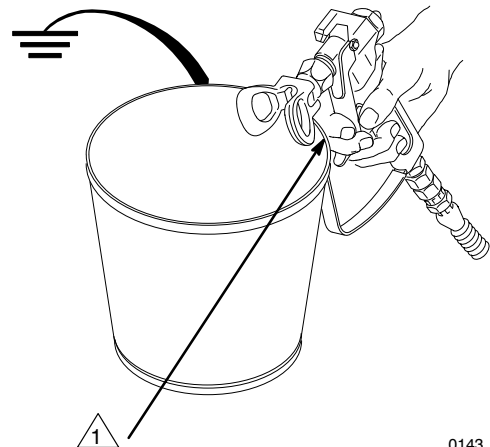

Fig. 4
7. To prime pump, hold a metal part of gun firmly against into a metal waste container. See Fig. 4. Squeeze trigger and hold it open, turn ON/OFF switch to ON, and slowly increase pressure setting until sprayer starts. Keep gun triggered until all air is forced out of system and paint flows freely from gun. Release trigger and engage gun safety latch.
7. Hold metal part of gun firmly against metal waste container. See Fig. 4. Trigger gun, turn sprayer switch (B) on, and slowly increase pressure until sprayer just starts. Keep gun triggered until all air is forced out of system and solvent flows freely from gun. Release trigger and engage gun safety latch.
9. Leave pressure drain valve (F) open until sprayer is used again.
10. Clean filter screen (D) and reinstall. Reinstall bowl (C), hand tight only.